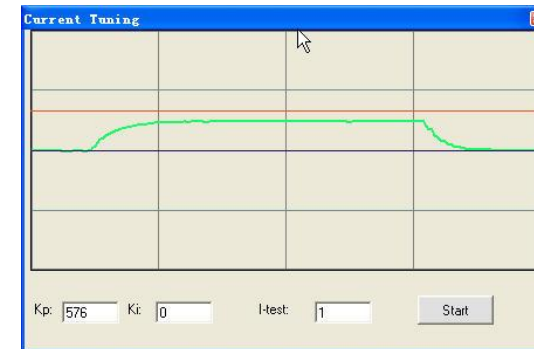

Figure 23: Kp=2604, Ki=0 (poor performances)
**Kp: Proportional Gain.** Proportional Gain determines the response of the Driver to current setting command. Low Proportional Gain provides a stable system (doesn't oscillate), has low stiffness, and large current error, causing poor performances in tracking current setting command in each step like Figure 23. Too large Proportional Gain values will cause oscillations and unstable systems.